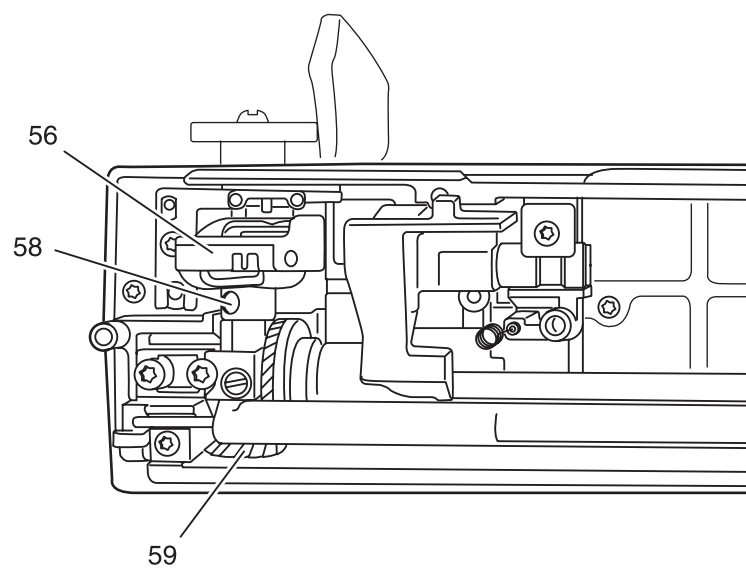

Fig. 35
- Loosen the two screws 58 (fig. 35).